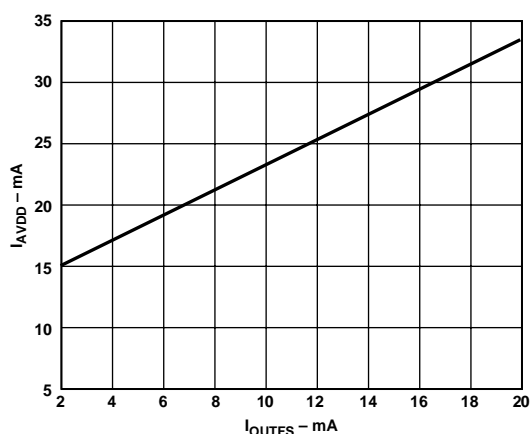

Figure 25. I_{AVDD} vs. I_{OUTFS}
The power dissipation, P_D , of the AD9750 is dependent on several factors which include: (1) $AVDD$ and $DVDD$, the power supply voltages; (2) I_{OUTFS} , the full-scale current output; (3) f_{CLOCK} , the update rate; (4) and the reconstructed digital input waveform. The power dissipation is directly proportional to the analog supply current, I_{AVDD} , and the digital supply current, I_{DVDD} . I_{AVDD} is directly proportional to I_{OUTFS} as shown in Figure 25 and is insensitive to f_{CLOCK} .